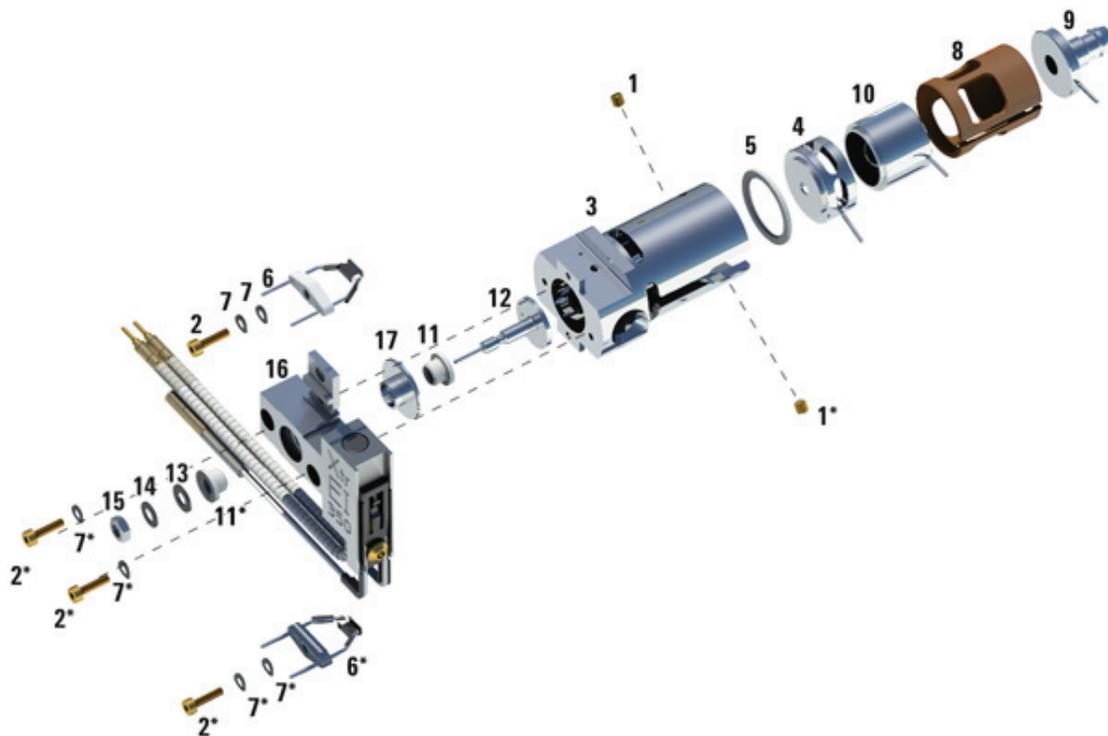

Figure 66. Assembling the EI HydroInert source
Refer to the exploded parts view Figure 66 and EI HydroInert parts list Table 27 on page 192 while using this procedure.
- 3 Insert the entrance lens and ion focus lens into the insulator in the order shown in Figure 66 on page 192.
Table 27 Parts list for EI HydroInert source (Figure 66)
Table 27 Parts list for EI HydroInert source (Figure 66) (continued)